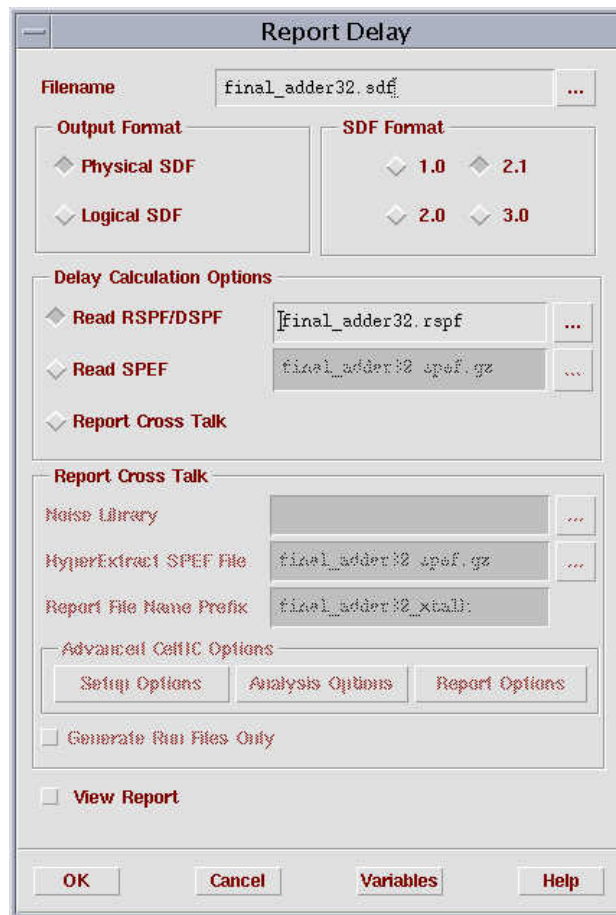

Figure 7-42 Report the delay of design.
2. Writing delay, click on **Report→Delay...** from the menu. The **Report Delay** form appears. Set the form as figure 7-42 and click on **Ok**.